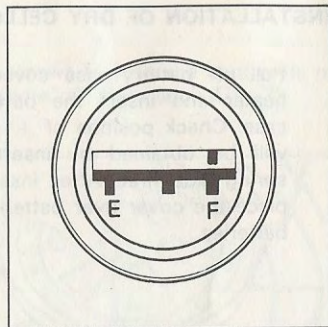

Fig. 9
- (1) Shut off the heater. Do not refuel while burning.
- (2) Remove the filler cap and refuel.
- (3) Use either a siphon or a funnel to fill the tank.
- (4) Watch the fuel gauge when fueling.
- (5) Stop filling when the fuel gauge points to "F"- full mark. (Fig.9)
- (6) Tighten the filler cap firmly.
- (7) Wipe off any kerosene overflow.